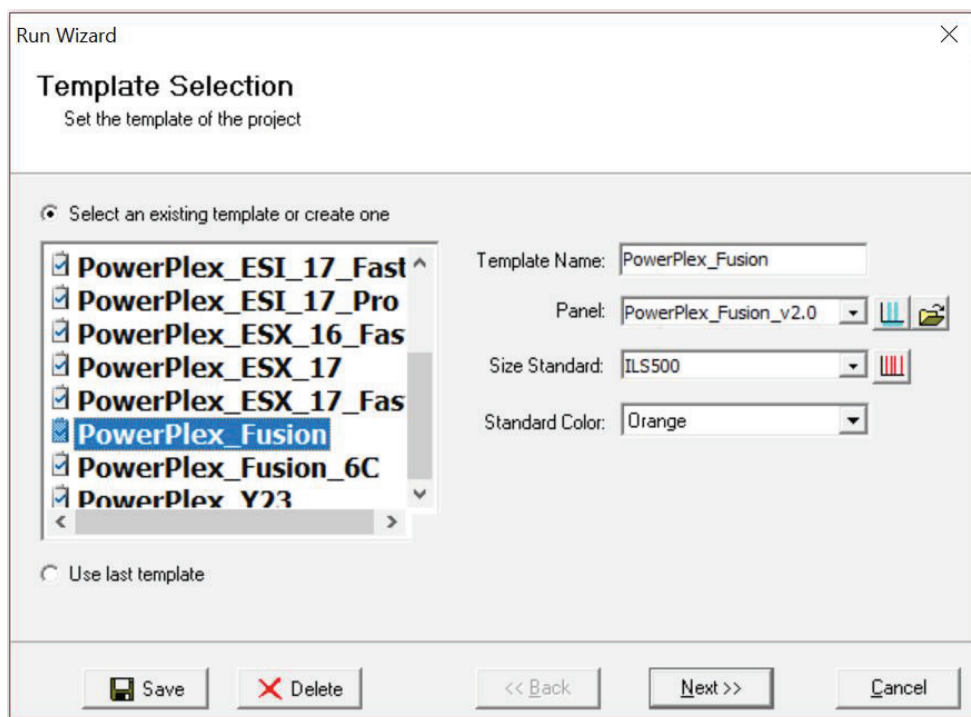

Figure 32. The 'Template Selection' window.
- Click on **Run** in the Magic Wizard or click the **Run Project** icon (green arrow) in the toolbar. The 'Template Selection' screen will appear (Figure 32). Select the PowerPlex_Fusion template and the settings shown in Figure 32. Verify the panel that you created in Step 6 is selected in the panel drop-down field. The Size Standard must be ILS500 and the Standard Color must be Orange. Select **Next**.